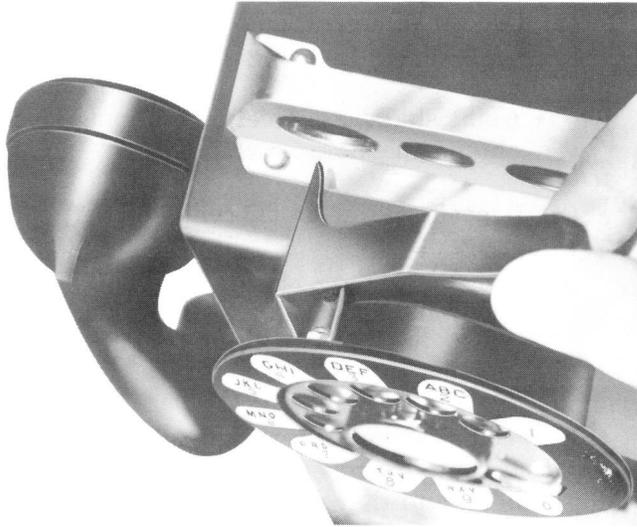

Fig. 1 — Method of Installing P-14A544 Coin Deflector
- See Fig. 1 and 2 for installation.